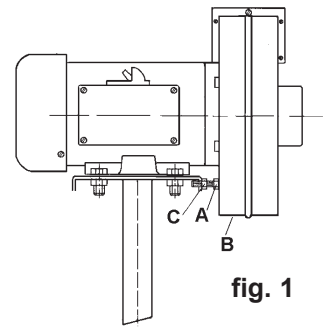

fig. 1
- Adjust screw (fig.1.A) to bear lightly against the side of the collector body (B) and lock by tightening nut (C).